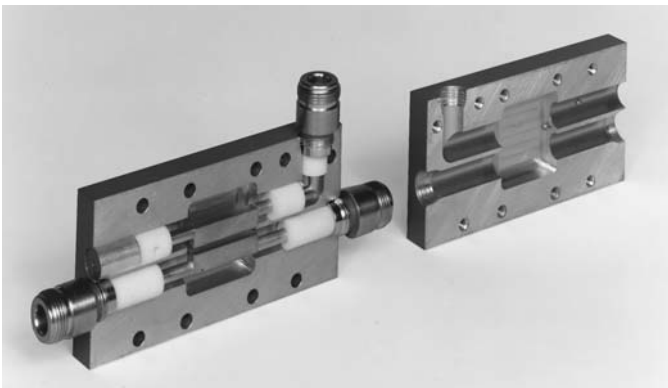

Figure 2. Internal view of a typical coaxial coupler
connected to the coupled output port through a coaxial line (C). The two sections, referred to respectively as the main and auxiliary lines, are separated from each other except for the coupling area, through which energy is unidirectionally coupled from the main line to the auxiliary line. A typical Narda coaxial coupler is shown in Figure 2.